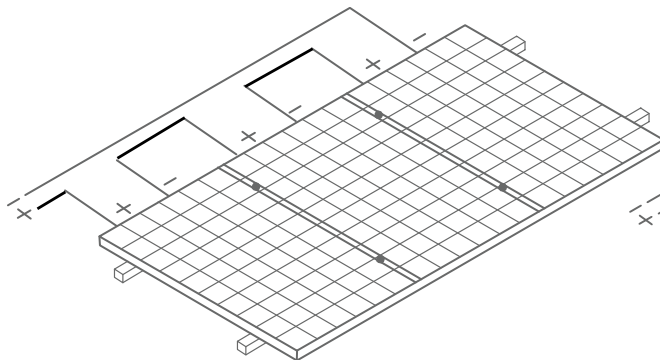

Figure 5 Series connection mode
- Do not use different types of modules in the same solar photovoltaic system. When the modules are connected in series, the voltage of each series cannot exceed the maximum voltage of the system (the series connection mode is shown in Figure 5 below). Reference formula of maximum series number of modules:  $\text{Maximum system voltage of modules} / (1.25 * \text{open circuit voltage})$ .